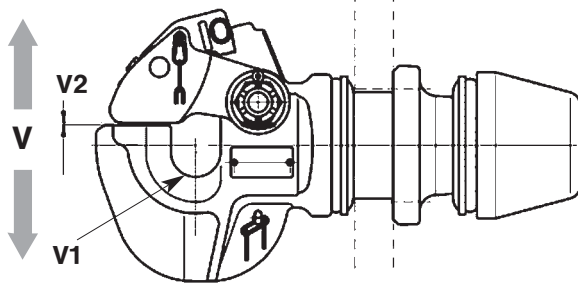

Fig. 11
- Move coupling head up and down with appropriate tool (V) (s. Fig. 11):